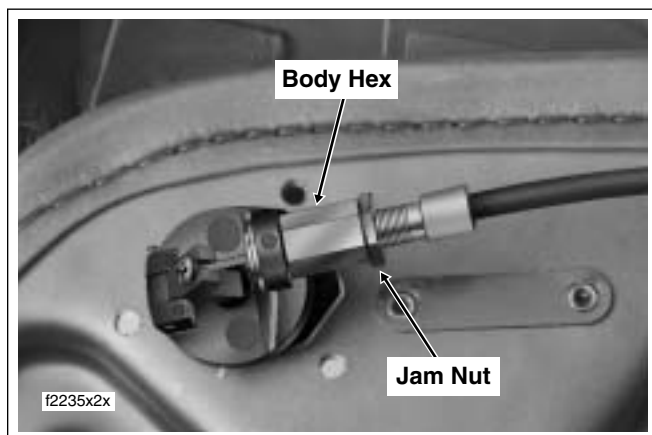

Figure 2-142. Cable Adjustment
Verify that ball end on opposite side of cable is installed in pivot of button assembly. See Figure 2-142.
3. Back jam nut away from body hex. See Figure 2-142.